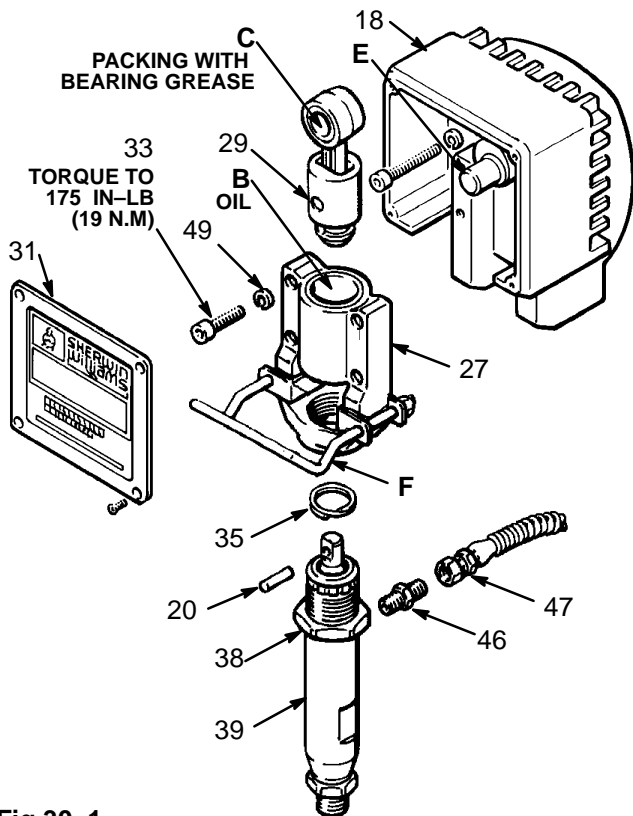

Fig 30-1
13. Install the front cover (31). Connect the suction tube and the short hose (47) to the pump. *See Fig 30-1.*